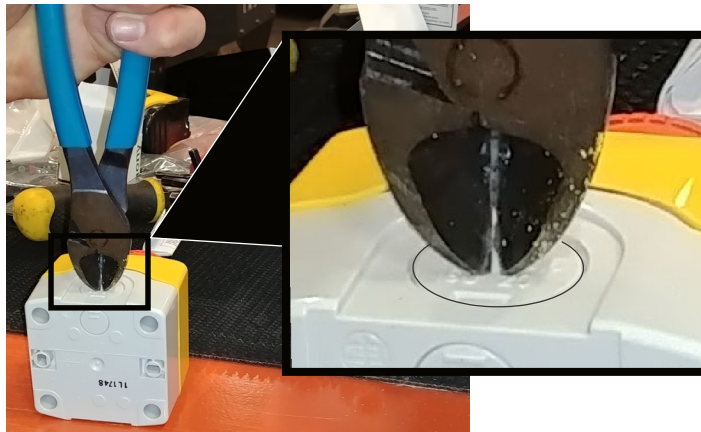

FIGURE 2
4. Punch out the conduit knock-out plug. (See Figure 2.)